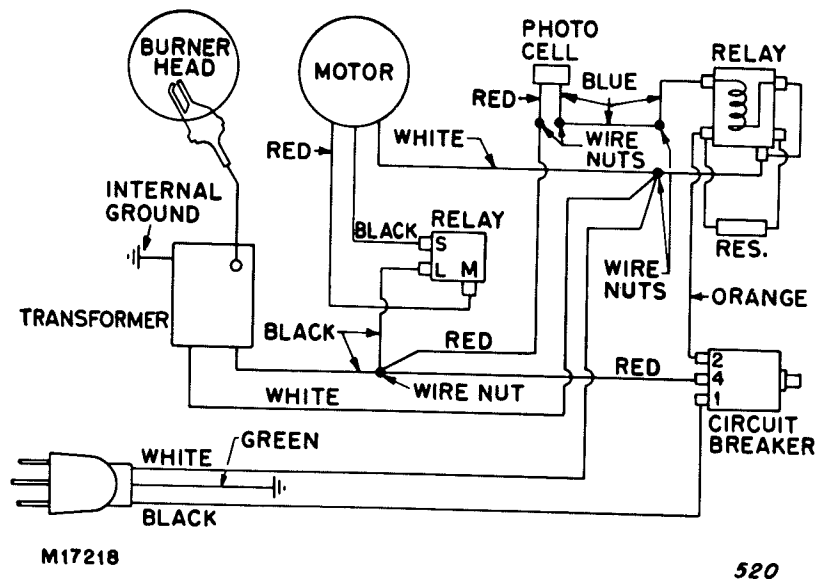

Figure 9. Wiring Diagram
5. Reinstall the attaching screws, and make wiring connections in accordance with Figure 9.
The heaters have 1/6 horsepower motors and separate starting relays. (See the Wiring Diagrams, Figure 9).
(2) Take the black motor wire off its terminal of the starting relay. Touch this wire to the terminal of the red motor wire at the relay. The motor should start. As soon as the motor reaches operating speed, remove the black wire from contact. The motor should continue to run.
(3) If the motor starts, install a new relay, and reconnect the wiring according to the Wiring Diagram, Figure 9.
(4) Failure of the motor to start could result from any of the following, assuming that all other circuits in the heater are operating correctly.